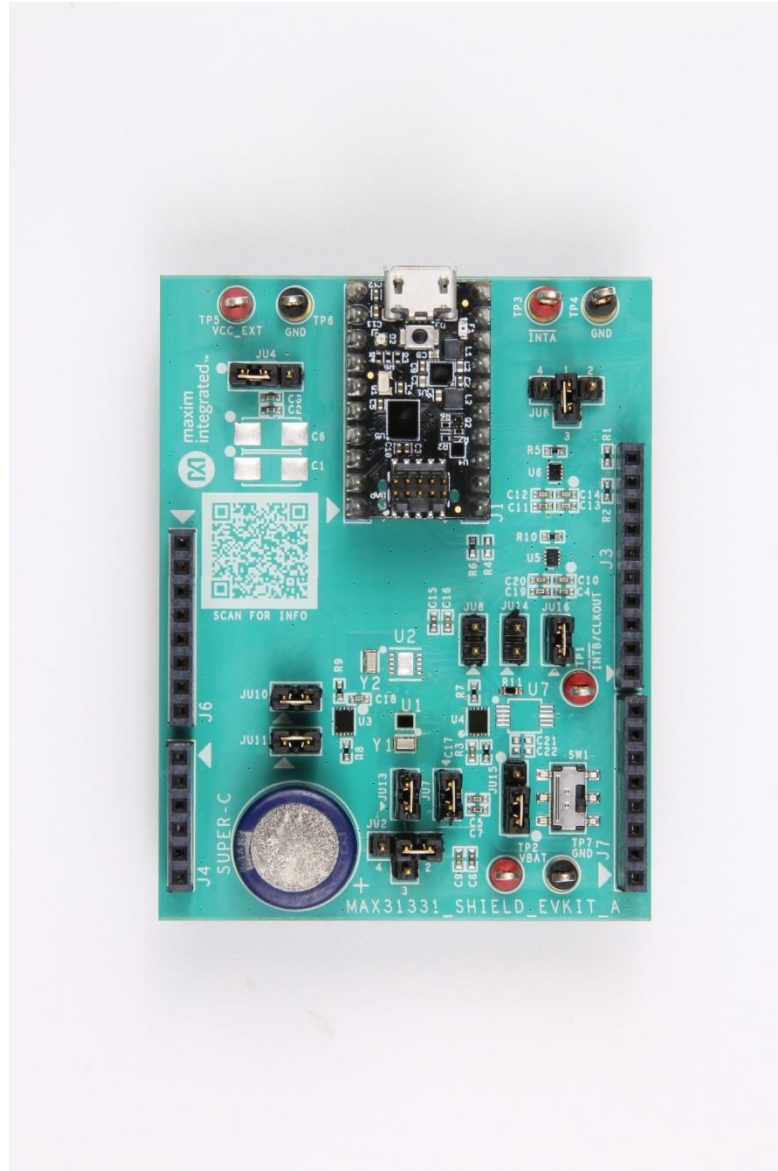

Figure 1. MAX31331 EV Kit Board Connections for WLP IC
4. Connect the MAX32625PICO I2C circuit board to the EV kit at its location (Figure 1).